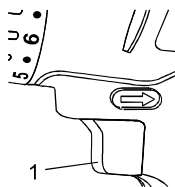

Fig. 7
1. To start drill, gently squeeze the trigger switch (1) (Fig. 7).